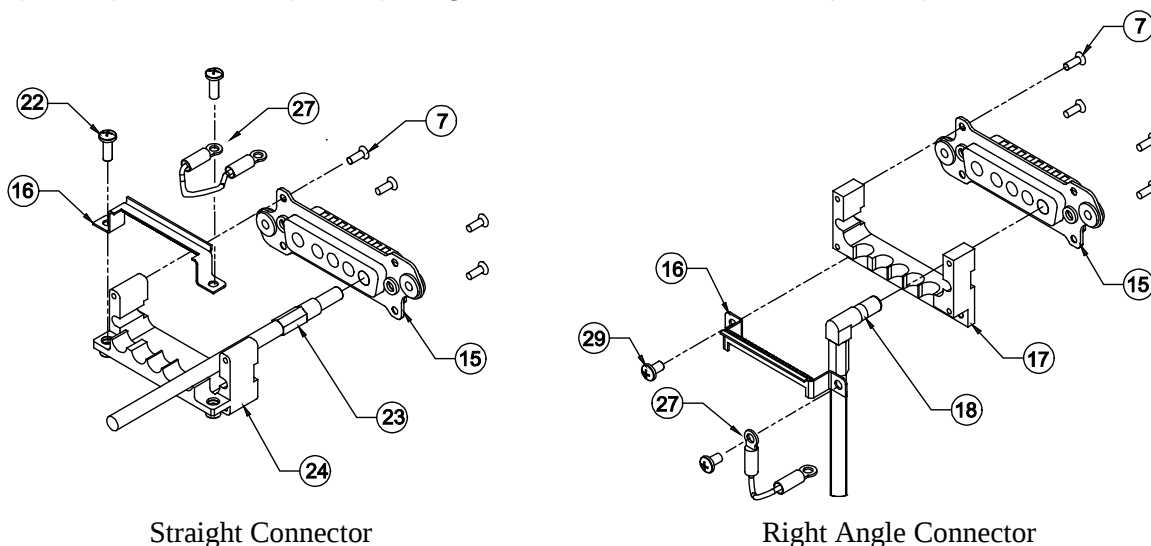

Figure 2-11: Connector Assembly
1. Refer to Figure 2-11.
2. Secure Backshell P/N 9000-17106-01 (item 24) to Connector P/N 9080-17007-01 (item 15) using 4 Screws P/N 2000-10085-01 (item 7).
3. Insert Cables into the appropriate slots of Connector P/N 9080-17007-01 (item 15).
4. Secure 1 Spring Clip P/N 90001963-001 (item 16) and 1 Cable Ground Strap P/N 9020-17002-01 (item 27) to Backshell P/N 9000-17106-01 (item 24) using 2 Screws P/N 2000-10087-01 (item 22).
2. Secure Backshell P/N 9000-17105-01 (item 17) to Connector P/N 9080-17007-01 (item 15) using 4 screws P/N 2000-10085-01 (item 7).
3. Insert Cables into the appropriate slots of Connector (item 15).
4. Secure 1 Spring Clip P/N 90001963-001 (item 16) and 1 Cable Ground Strap P/N 9020-17002-01 (item 27) to Backshell (item 17) using 2 Screws P/N 101-10114-011 (item 29).